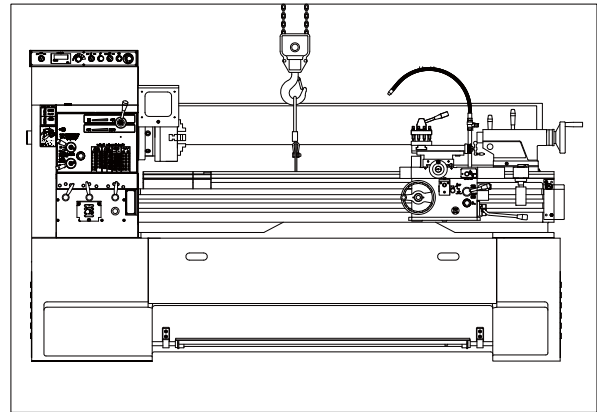

Figure 11. Lifting the machine with crane.
6. Lifting the machine with crane. (Figure 11)